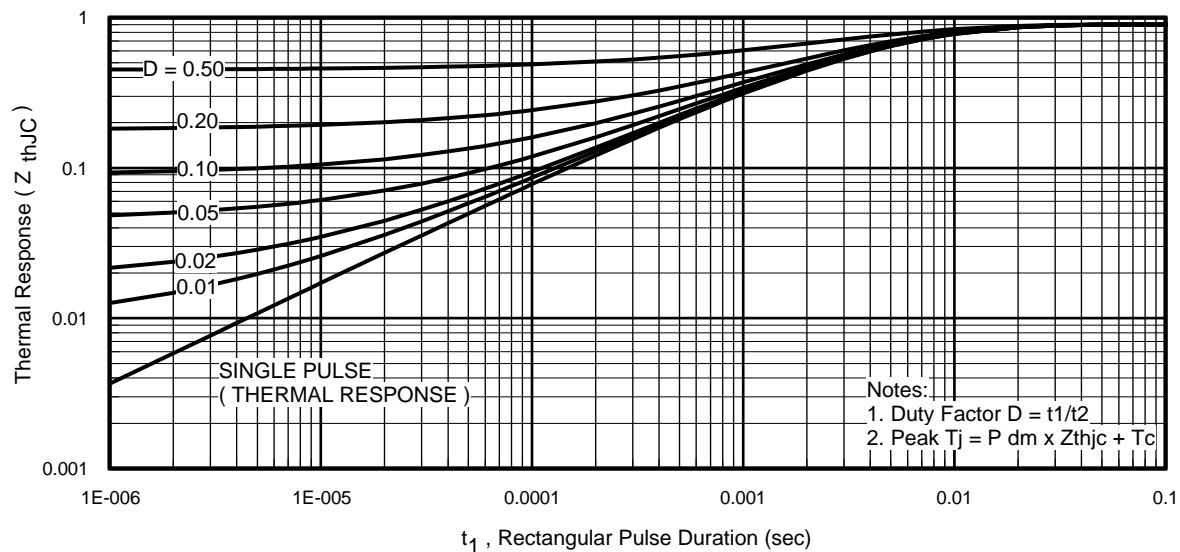
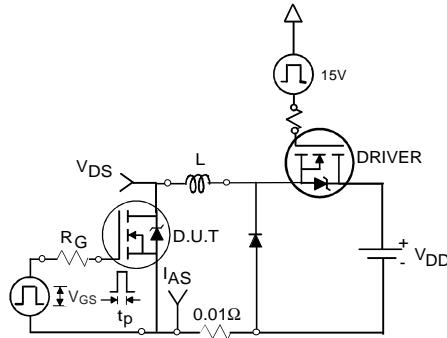

Fig 11. Maximum Effective Transient Thermal Impedance, Junction-to-Case
Fig 12a. Unclamped Inductive Test Circuit
- ① Repetitive rating; pulse width limited by max. junction temperature. (See fig. 11).
- ② Limited by $T_{J\text{max}}$, starting $T_J = 25^\circ\text{C}, L = 0.08\text{mH}$ ⑤ $R_G = 25\Omega, I_{AS} = 66\text{A}, V_{GS} = 10V$. Part not recommended for use above this value.
- ③ Pulse width $\leq 1.0\text{ms}$; duty cycle $\leq 2\%$.
- ④ $C_{oss \text{ eff.}}$ is a fixed capacitance that gives the same charging time as C_{oss} while V_{DS} is rising from 0 to 80% V_{DSS} .
- ⑤ Limited by $T_{J\text{max}}$, see Fig.12a, 12b, 15, 16 for typical repetitive avalanche performance.
- ⑥ This value determined from sample failure population. 100% tested to this value in production.
3. Equation below based on circuit and waveforms shown in Figures 12a, 12b.
$Z_{thJC}(D, t_{av})$ = Transient thermal resistance, see figure 11)